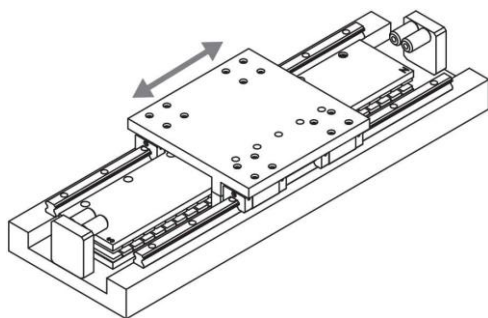

Figure 5.2-7 Smoothness confirmation
- ▶ After the installation is complete, move, and slide the forcer base to confirm that there is no interference. (refer to Figure5.2-7)